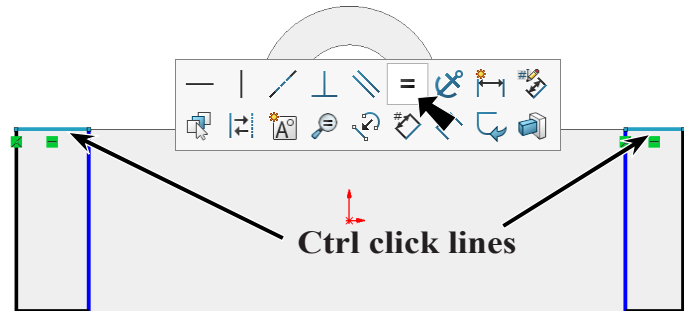

Fig. 10
Step 6. **Ctrl click a horizontal line of rectangles** to select both. Release Ctrl key and click **Make Equal**  on the context toolbar, **Fig. 10**.